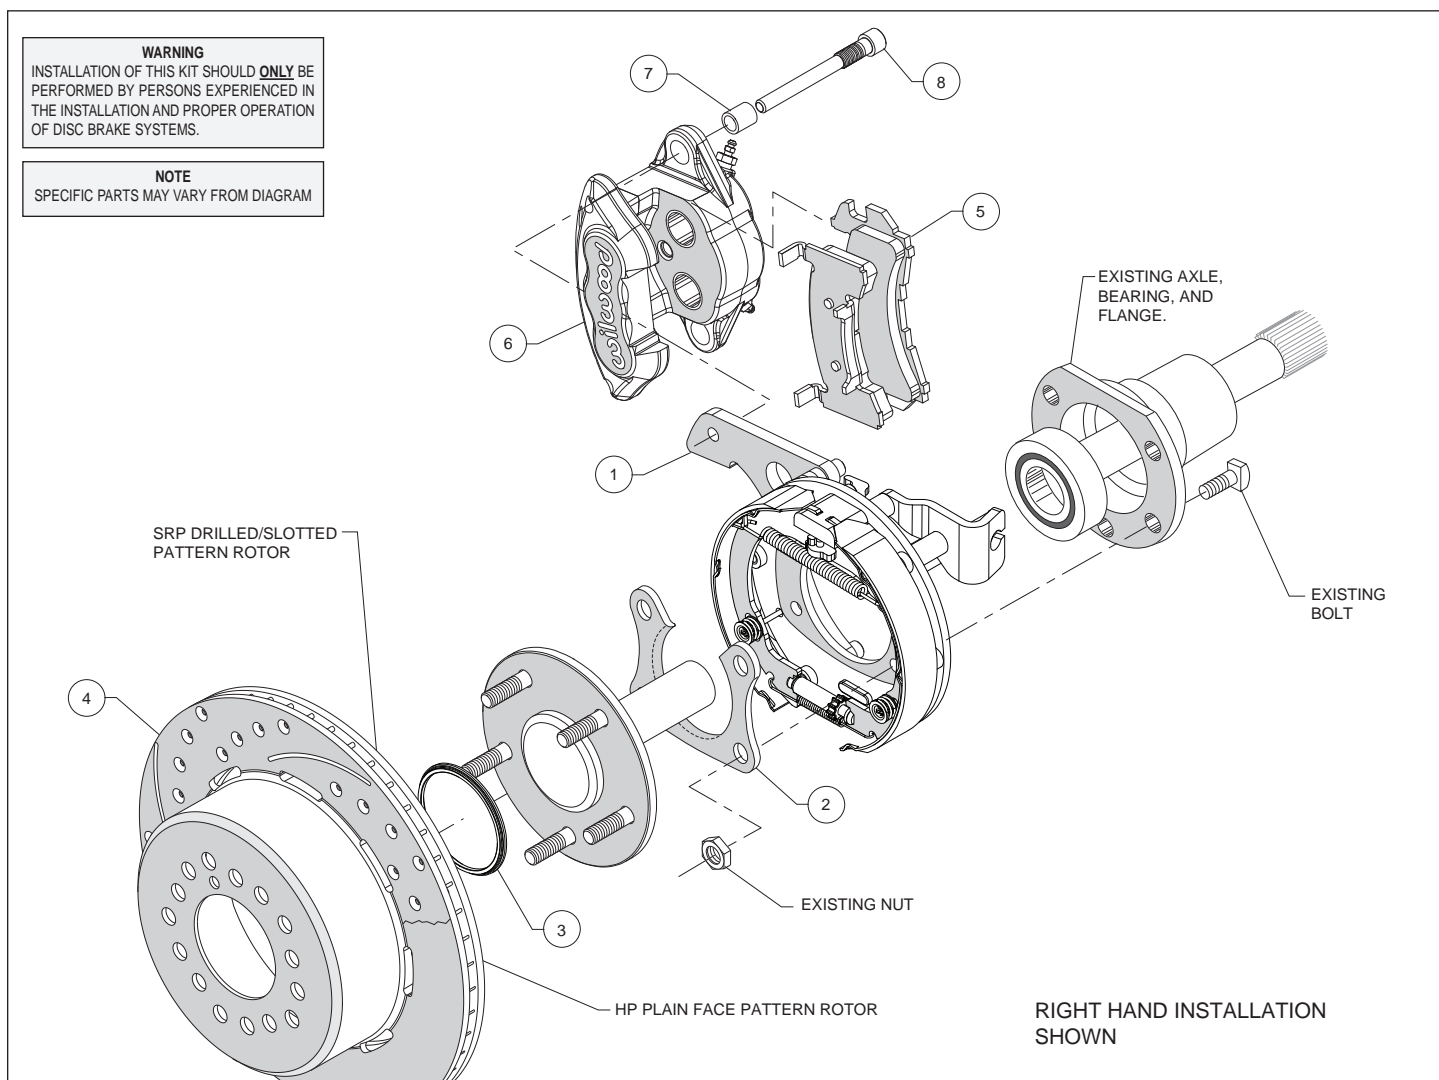

Figure 1. Typical Installation Configuration
Assembly Instructions (numbers in parenthesis refer to the parts list, and Figure 1 on the preceding pages): **CAUTION:** All mounting bolts must fully engage threaded holes.
- Orient the bracket assembly (1) as shown in Figure 1 and Photo 1 and slide it onto the axle. Insert the axle and bracket into the axle housing. Ensure that the bracket assembly backing plate fits flush against the axle housing flange.
- Install the bearing retainer (2) with the opening pointing upward and the lip facing inward (toward the bearing), as shown in Figures 1 and 4, and Photo 2. Secure retainer and bracket assembly to the axle housing flange using the Original Equipment Manufacturer (OEM) bolts and nuts, Figure 1. Apply red *Loctite*® 271 to the OEM bolt threads and torque to OEM specifications.
- Slide the rotor registration adapter (3) onto the axle register on the axle flange with the smaller O.D. facing toward the rotor/hat (4), Photo 3. Align the correct hole pattern in the rotor/hat with the stud pattern on the axle flange and slide into place, Figure 1 and Photo 4. **NOTE:** The rotor/hat must fit flush against the axle flange or excessive rotor run out may result. Install three lug nuts (finger tight) to keep the rotor/hat assembly in place while continuing with the installation. **NOTE:** Some OEM and after market axles come with stud sizes larger than 0.50" diameter. Verify stud size and have a qualified machine shop drill the bolt circle of the hat/rotor to the correct stud size, if necessary.
- Install the disc brake pads (5) into the caliper (6) with the friction material facing the rotor, as shown in Figure 1 and Photo 5.
- Install sleeves (7) onto slide pin bolts (8). Apply white lithium grease (available from your local auto parts store) to the slide pins/sleeves, as shown in Photo 6. **Do not apply to threads.** Mount the caliper (6) onto the mounting bracket (1) using slide pin bolts, as shown in Figure 1. Torque to 35 ft-lbs.